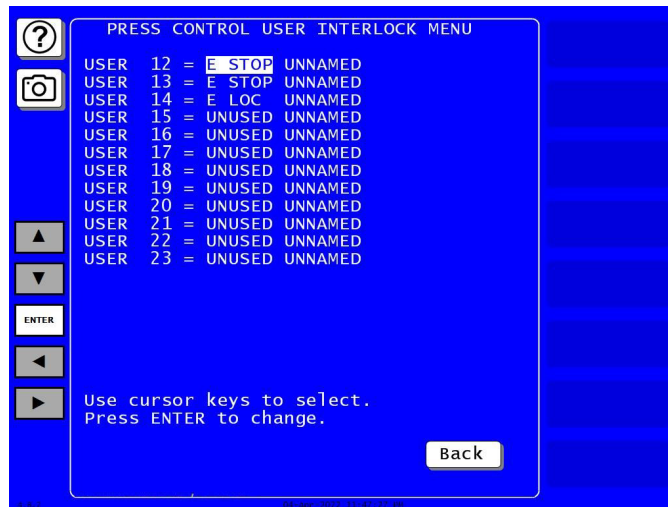

Figure 3-4. Press Control User Interlock Menu for Group 2 User Inputs
- Press the button indicating the group of user inputs (i.e., Group 1, Group 2, or Group 3) that contains the user input you wish to set. The Press Control Interlock Menu for that user input group displays (see Figure 3-4, which shows the Group 2 screen) with the default stop type for the first user input in the group highlighted.